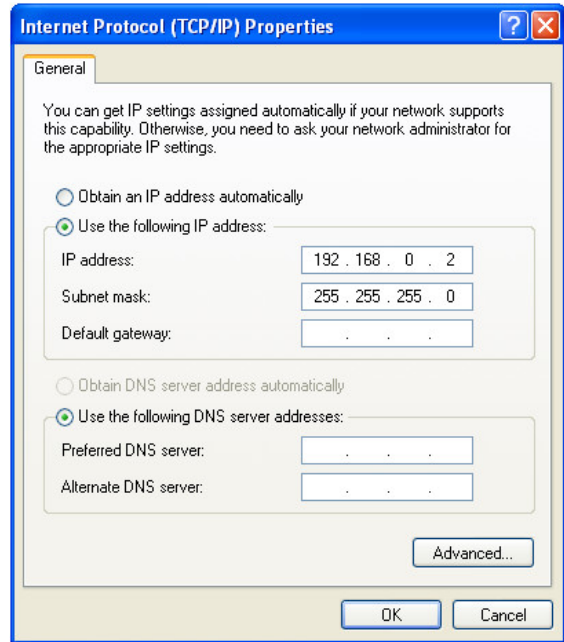

Figure B.2 – TCP/IP properties window in Windows OS
3) Select "Internet Protocol (TCP/IP)" from the list of connection components in the next window. Make sure that the component is enabled (flagged in the list). Click "Properties". The TCP/IP properties window opens (see Fig. B.2).